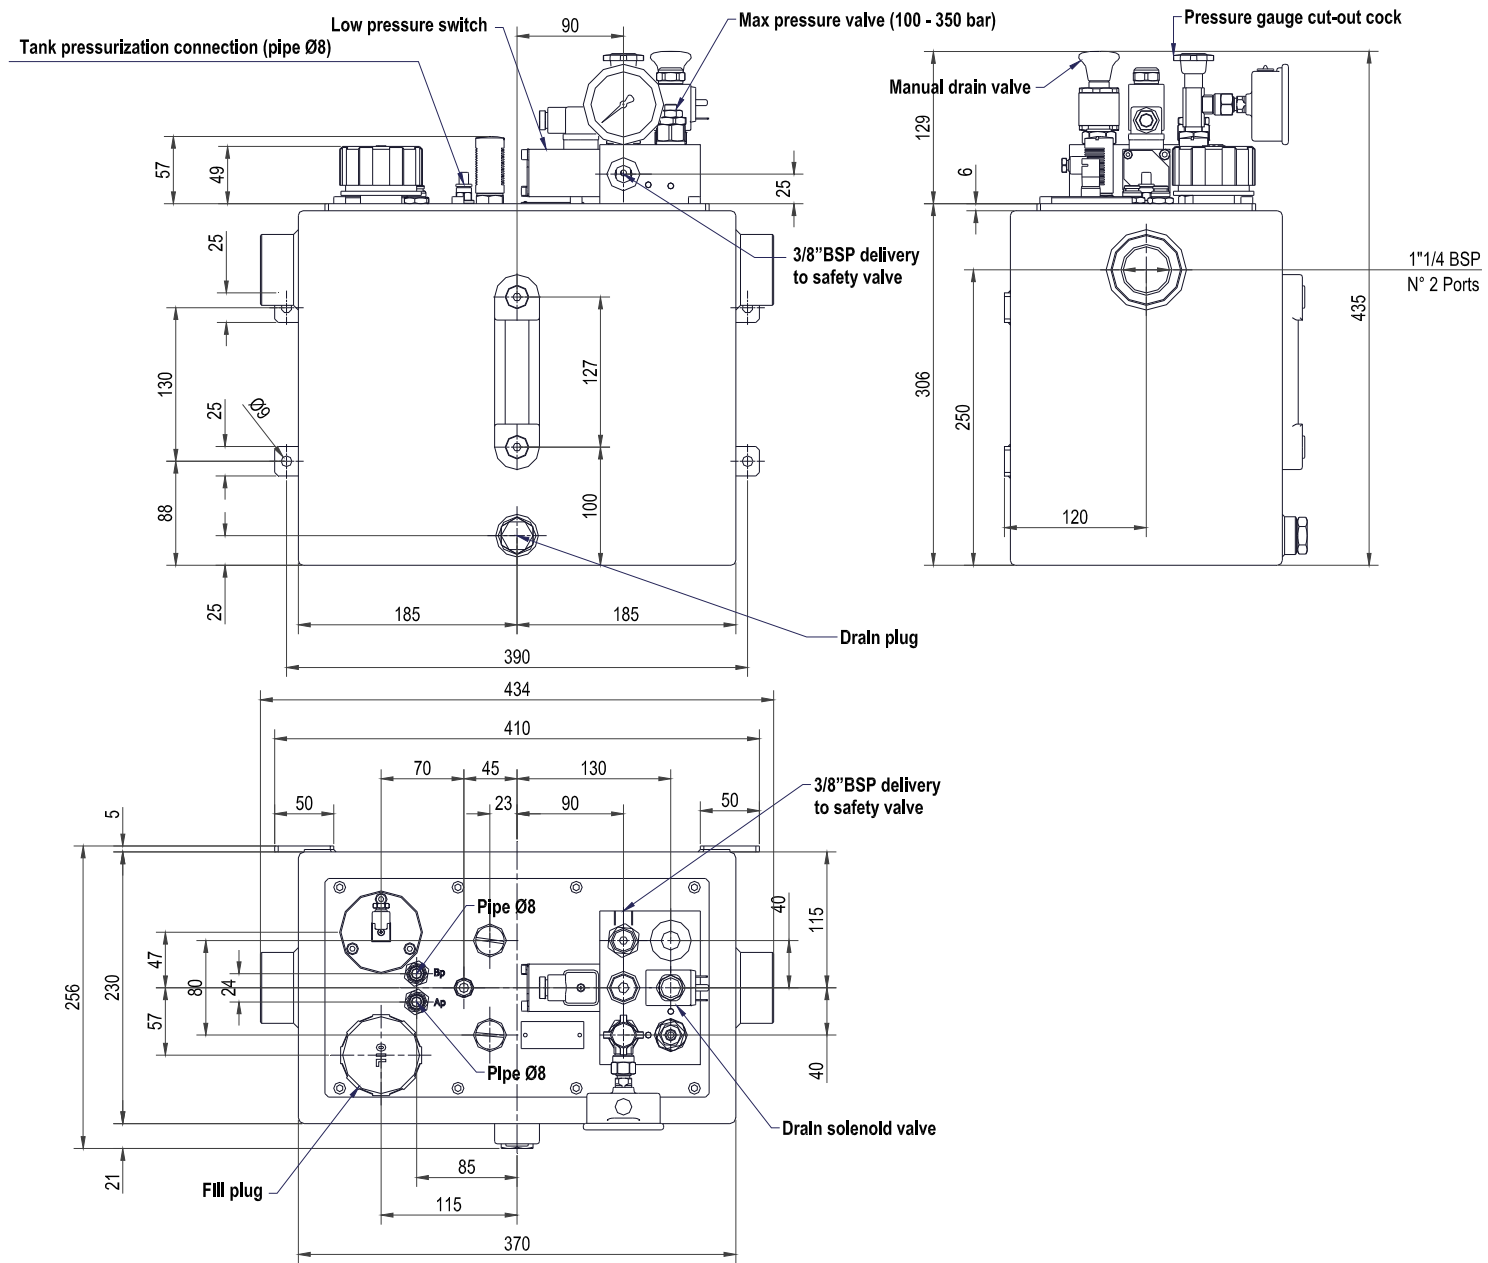

fig.3
## Code 5-1719-\*0 control unit (figure 3)
**Code 5-1719-\*-0 control unit (figure 3)**